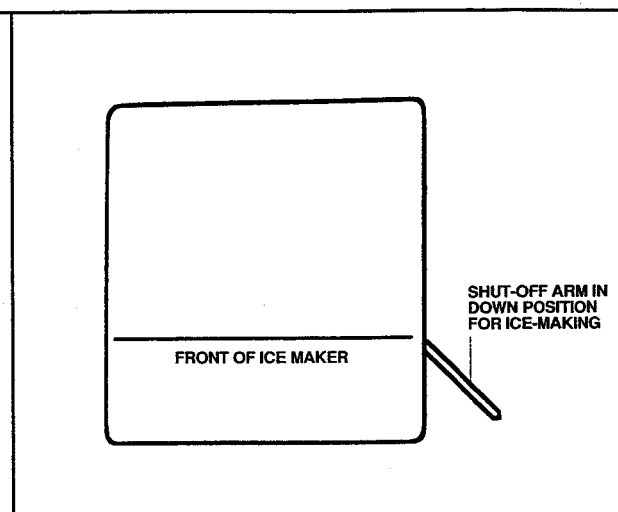

Figure 16
11. The ice maker is shipped from the factory with the shut-off arm in the *down* position, as shown in Figure 16. This is the correct position for ice making.